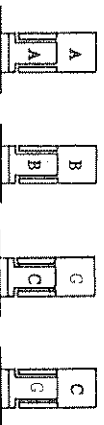

Figure 3-16
- (1) Disconnect the input power cord. Remove the cover referring to Section 4-1-3. Remove PC board A-650.
- (2) Change the connections of connectors C and H on PC board A-650 as shown in Figure 3-16. (See Figures 3-5 and 3-3.)